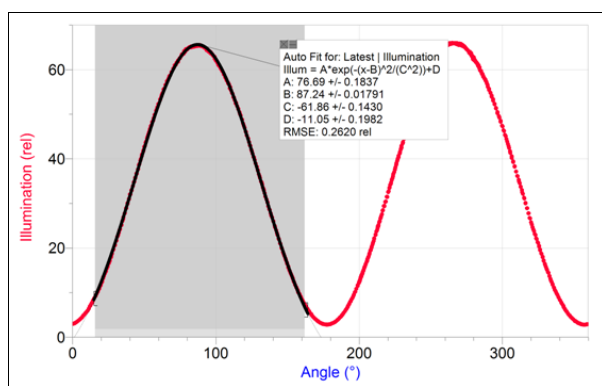

Figure 1 Selection for Statistics and Gaussian fits (applies to all supported software)
- a. Statistics: To simply get the angle with the highest illumination, highlight the peak of interest in Instrumental Analysis, as shown in Figure 1. Click or tap Graph Tools, , and select View Statistics. Record the angle value where the illumination is at a maximum, as presented in the box. This method is the fastest and will result in reproducibility of the angle of rotation measurement of $\pm 2.0^\circ$.
- Statistics:** To simply get the angle with the highest illumination, highlight the peak of interest in LabQuest App, as shown in Figure 1. Choose Statistics from the Analyze menu. Record the angle value where the illumination is at a maximum, as presented in the box. This method is the fastest and will result in reproducibility of the angle of rotation measurement of $\pm 2.0^\circ$.
- Gaussian:** To improve your accuracy with a better fit, highlight the peak of interest using LabQuest App, as shown in Figure 1. Then, choose Curve Fit from the Analyze menu. From the list of available Equations, select Gaussian. The fit will run automatically. The B coefficient presented represents the angle at maximum illumination. This method will result in reproducibility of the angle of rotation measurement of $\pm 0.3^\circ$. The data are not a true Gaussian, but the ease and accuracy of this methodology make it a good option. For best results, be consistent in the way you select your peaks.